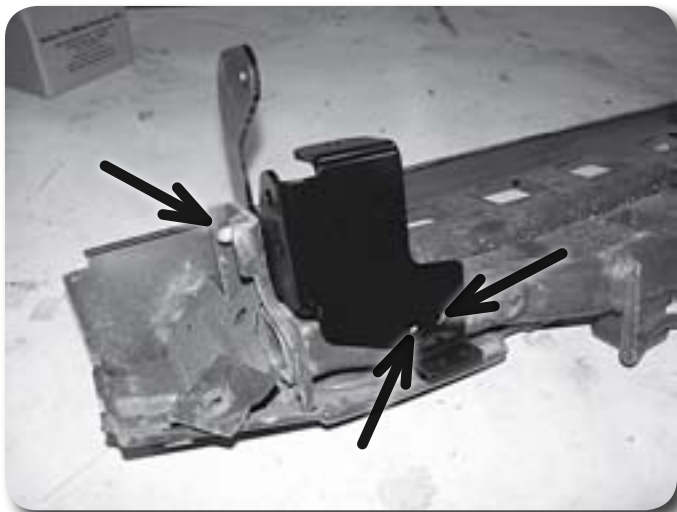

Figure 32
56. Place bumper brackets onto rear bumper. Align bumper bracket with bottom of bumper. One existing hole will line up on the bottom and the original mounting hole with a 16mm nut will line up with bracket **Figure 32**.
57. Drill the existing lower hole out to $\frac{1}{2}$ ". Mark and drill the other hole on the bottom of the bracket to $\frac{1}{2}$ " **Figure 32**.